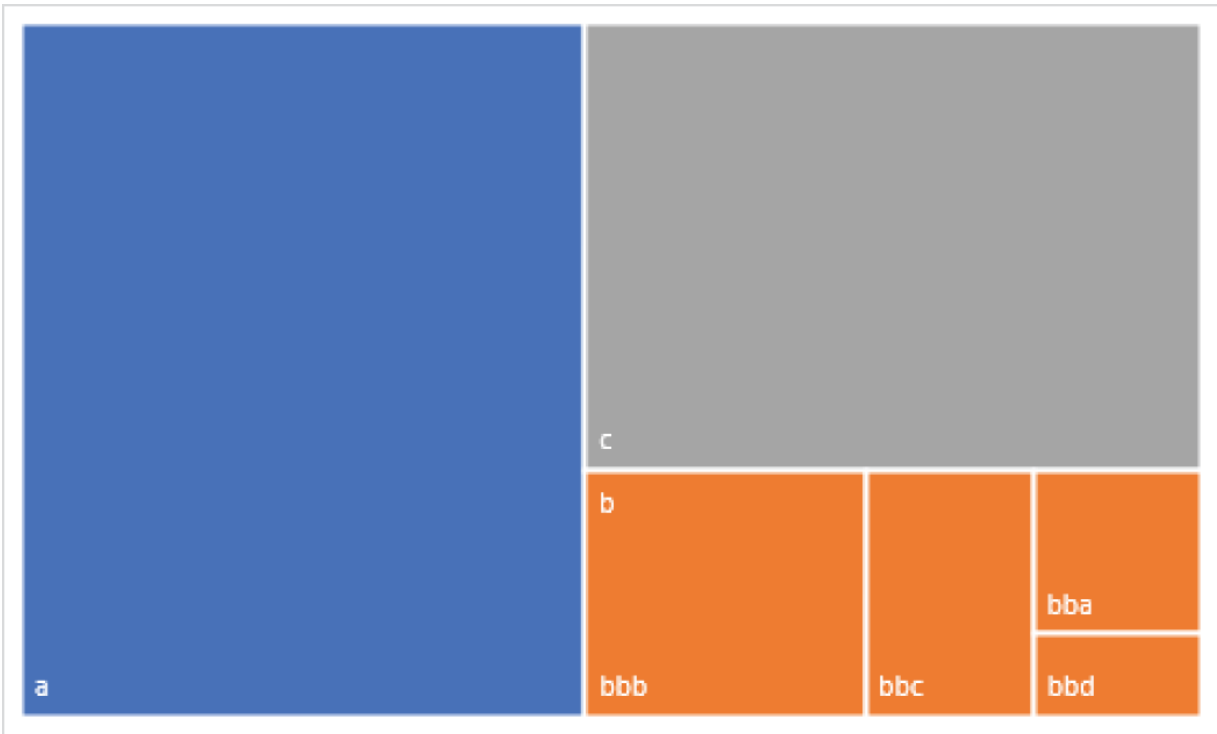

Figure 8.29: A treemap with an incomplete hierarchy
Another trait common between treemaps and sunbursts is that the hierarchy doesn't have to be complete. That is, not every level of the hierarchy must have child data points. Figure 8.29 shows a treemap where only one of the top-level data points, the one labeled “b” in this example, has lower-level data points.
- **Overlapping:** The parent data point label is shown within one of the child data points. The treemap in Figure 8.29 displays both the “b” data point label and labels for all of its children.